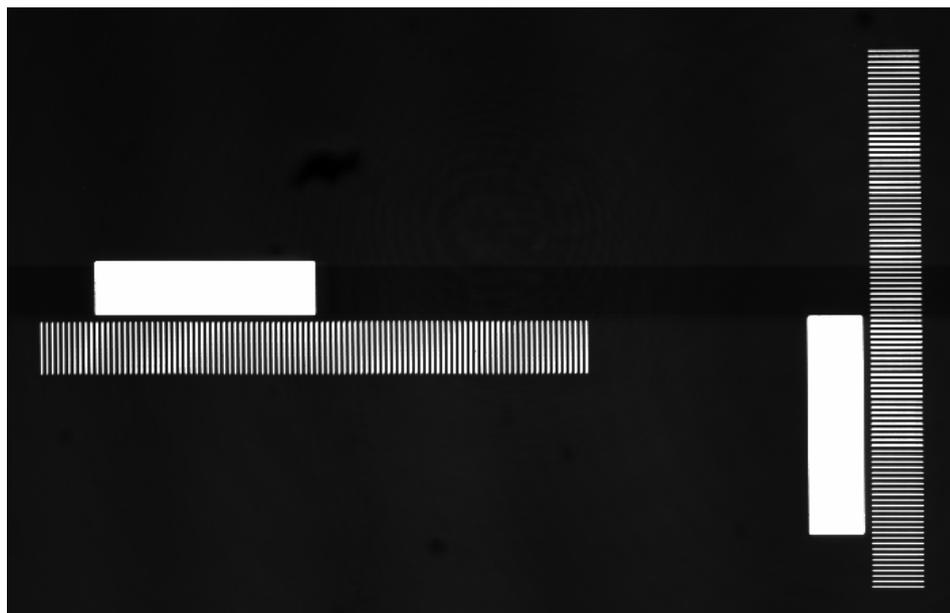

Fig. 4-272 Calibration standard
- A special sample (see Fig. 4-272) with two identical but 90 degrees rotated gratings (one for each scan direction) has to be used as a calibration standard.